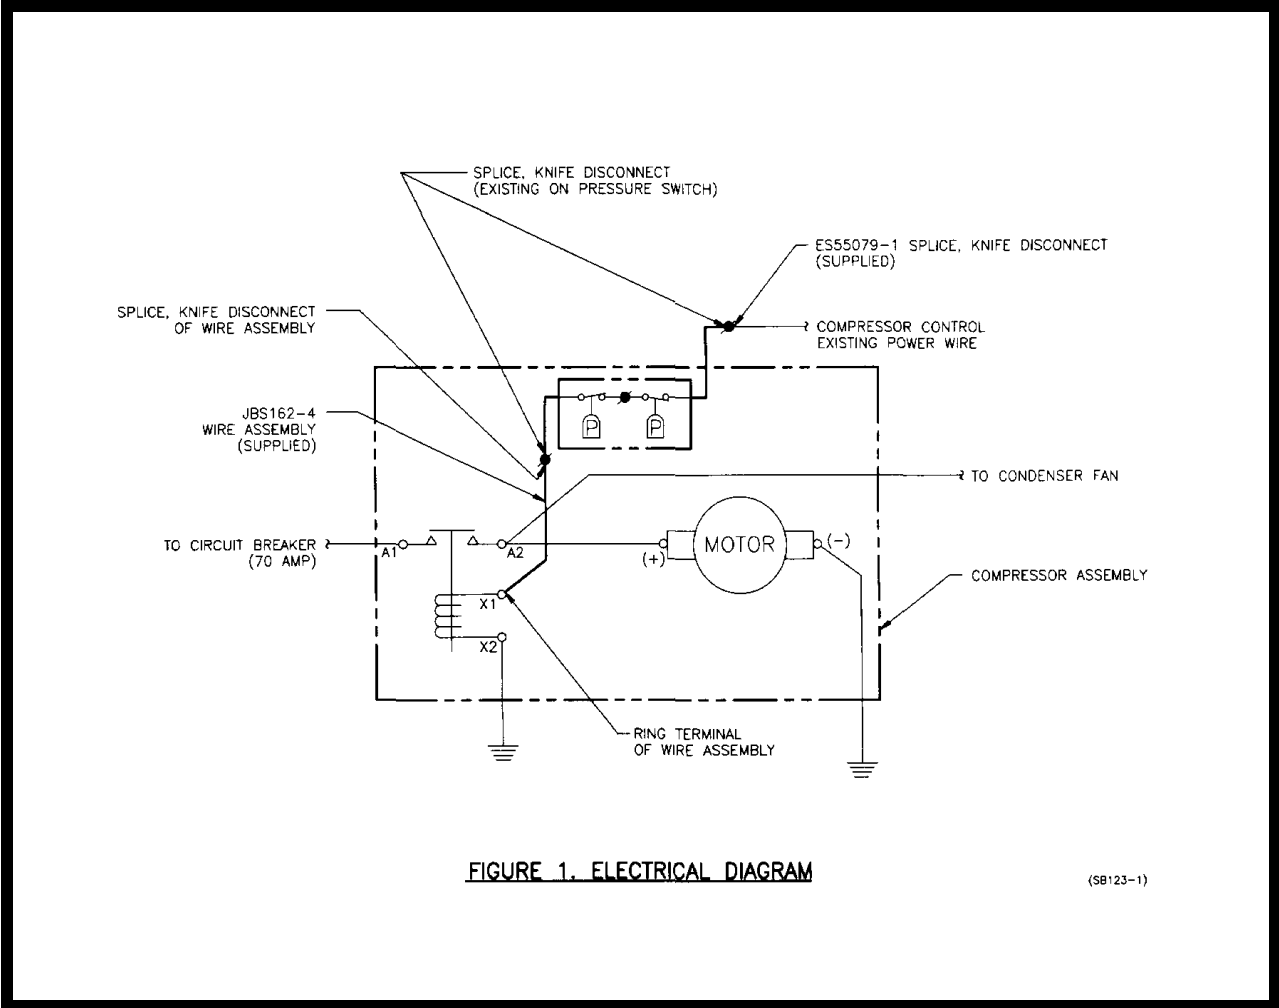

FIGURE 1. ELECTRICAL DIAGRAM
12.14 To electrically connect the two (2) pressure switch wires, in series, into the existing compressor control (+28Vdc) electrical wire between the power source and the relay coil X-1 terminal, see Figure 1. Electrical Diagram. Remove the existing compressor control power wire connected to the relay coil X-1 terminal. Cut the ring terminal from this wire end. Install knife splice ES55079-1 to the end of this wire. Slide one length of tubing JBS570-10 over the splice, to clear the splice. Attach this knife splice to the knife splice of the red/white wire of the pressure switch. Slide the length of tubing so that it is now positioned over/covering both splices and secure in place using two (2) ES30015-5 Ty-Wraps; one on each end of the tubing.